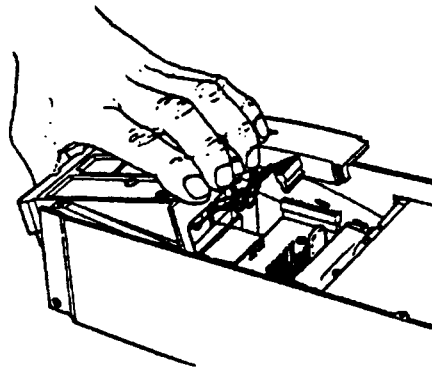

Figure 21: Removing the Dispenser Assembly
- Grip the Dispenser and rock slightly to loosen. Once free, lift the Dispenser up and out of the Housing (Figure 21).